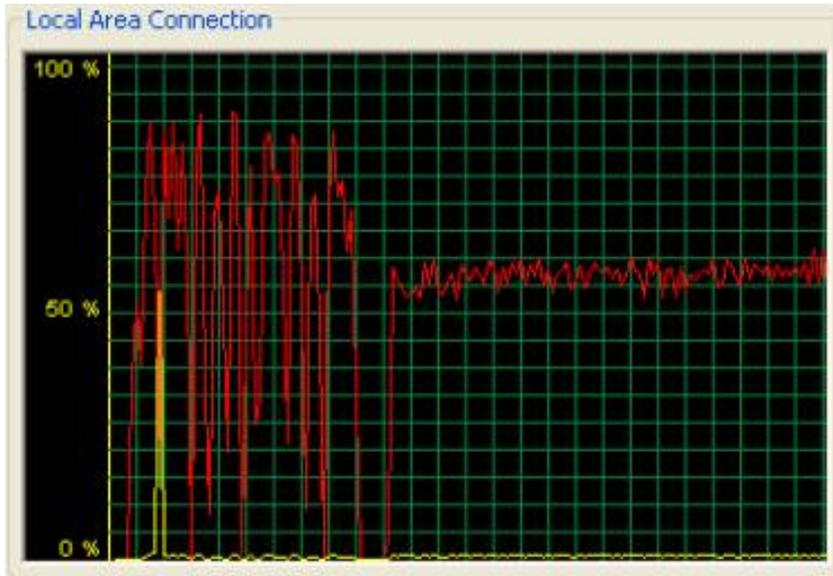

Figure 8. Initial network traffic.
12. Figure 8 below shows the network traffic at the start of the run. Red indicates the sending and yellow indicates the receiving. It appears to do an initial check of the connections and then a sustained send to send the distributed domains.